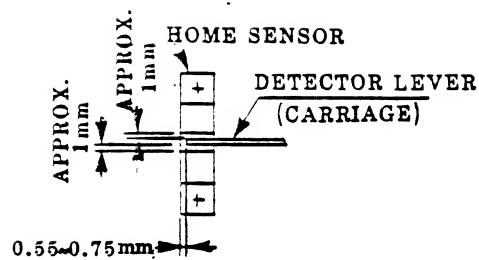

Figure 4-9. First Character Printing Position
- You also need now to determine that the first character printing position is accurate (see Figure 4-9). If it is not, follow the procedure for that adjustment on page 4-8.
- Position the space motor one way or the other so that when the power is on the print head returns and stops at the home sensor position illustrated in Figure 4-9 below.